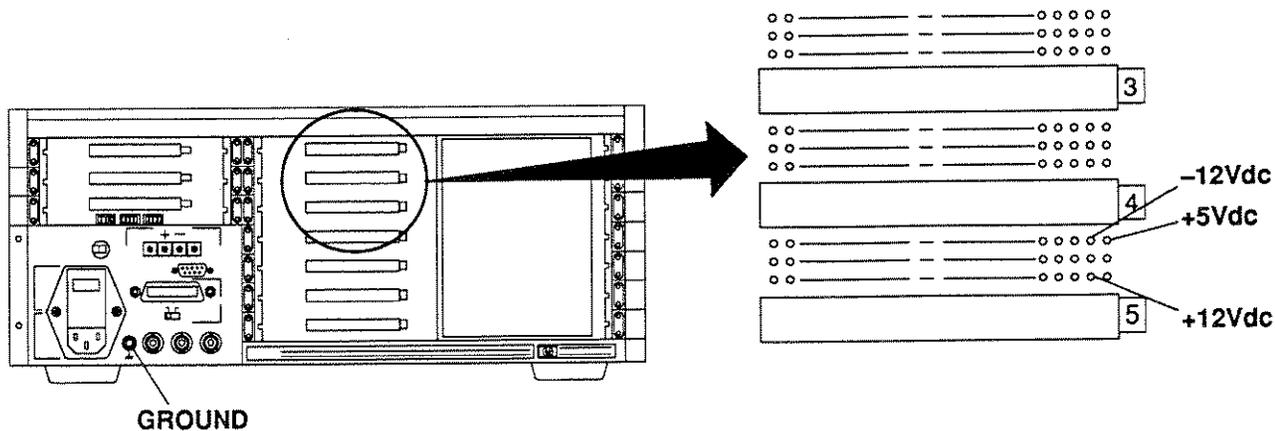

Figure 4-2. Power Supply Test Measurement Locations
2. Using a Digital Multimeter, verify that the power supply voltages are as follows (measured from ground). See Figure 4-2 for measurement locations.